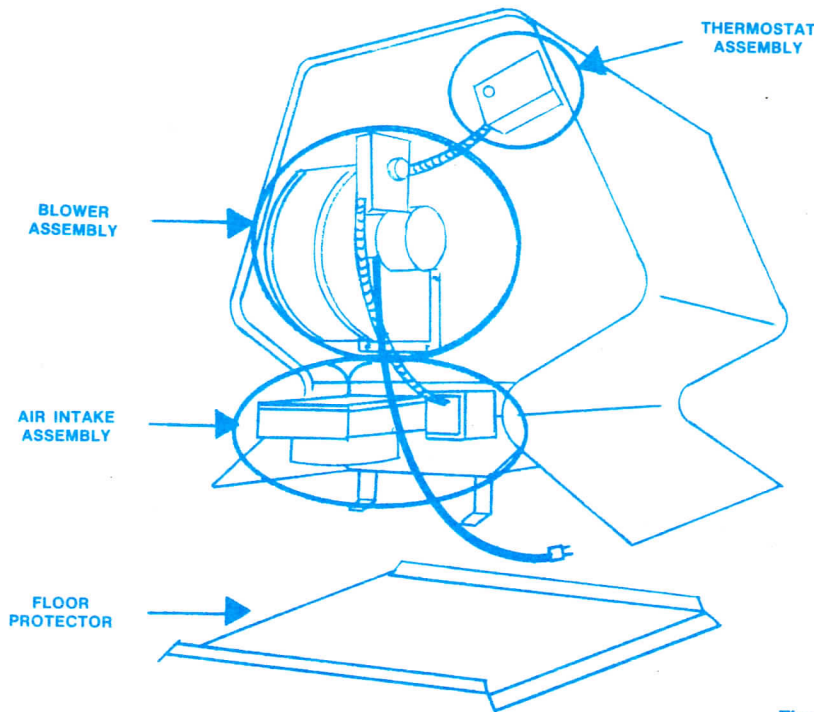

Figure 1
- Fasten AIR INTAKE ASSEMBLY to rectangular opening on the lower center portion of unit. (See figure 1.) With the butterfly spindraft control facing up and the 6" round flange for the exterior air intake facing down, use the four #10 by 1/2" sheet metal screws to secure the air intake enclosure to the stove. Use a 5/16" wrench or socket to tighten screws. The Air Intake Assembly must be flush with the stove in order to assure air tight construction and unwanted air from entering the unit.
- Insert the 5" thermostat probe through the stand off bracket into the unit. (See figure 1.) Do not tighten stand off bracket onto the thermostat probe at this time. Align the blower holes and fasten the BLOWER ASSEMBLY onto the unit using four 1/4" by 1" hex head bolts. (See figure 1.) Tighten firmly, but do not overtighten. Overtightening will bend the tinnerman clips.
- Press the thermostat assembly flush with the stand off bracket. Align the thermostat so that the short end of the thermostat is parallel with the side of the stove. (See figure 1.) Tighten the set screw on the stand off bracket onto the thermostat probe. Do not overtighten. Overtightening may result in damage to the thermostat.